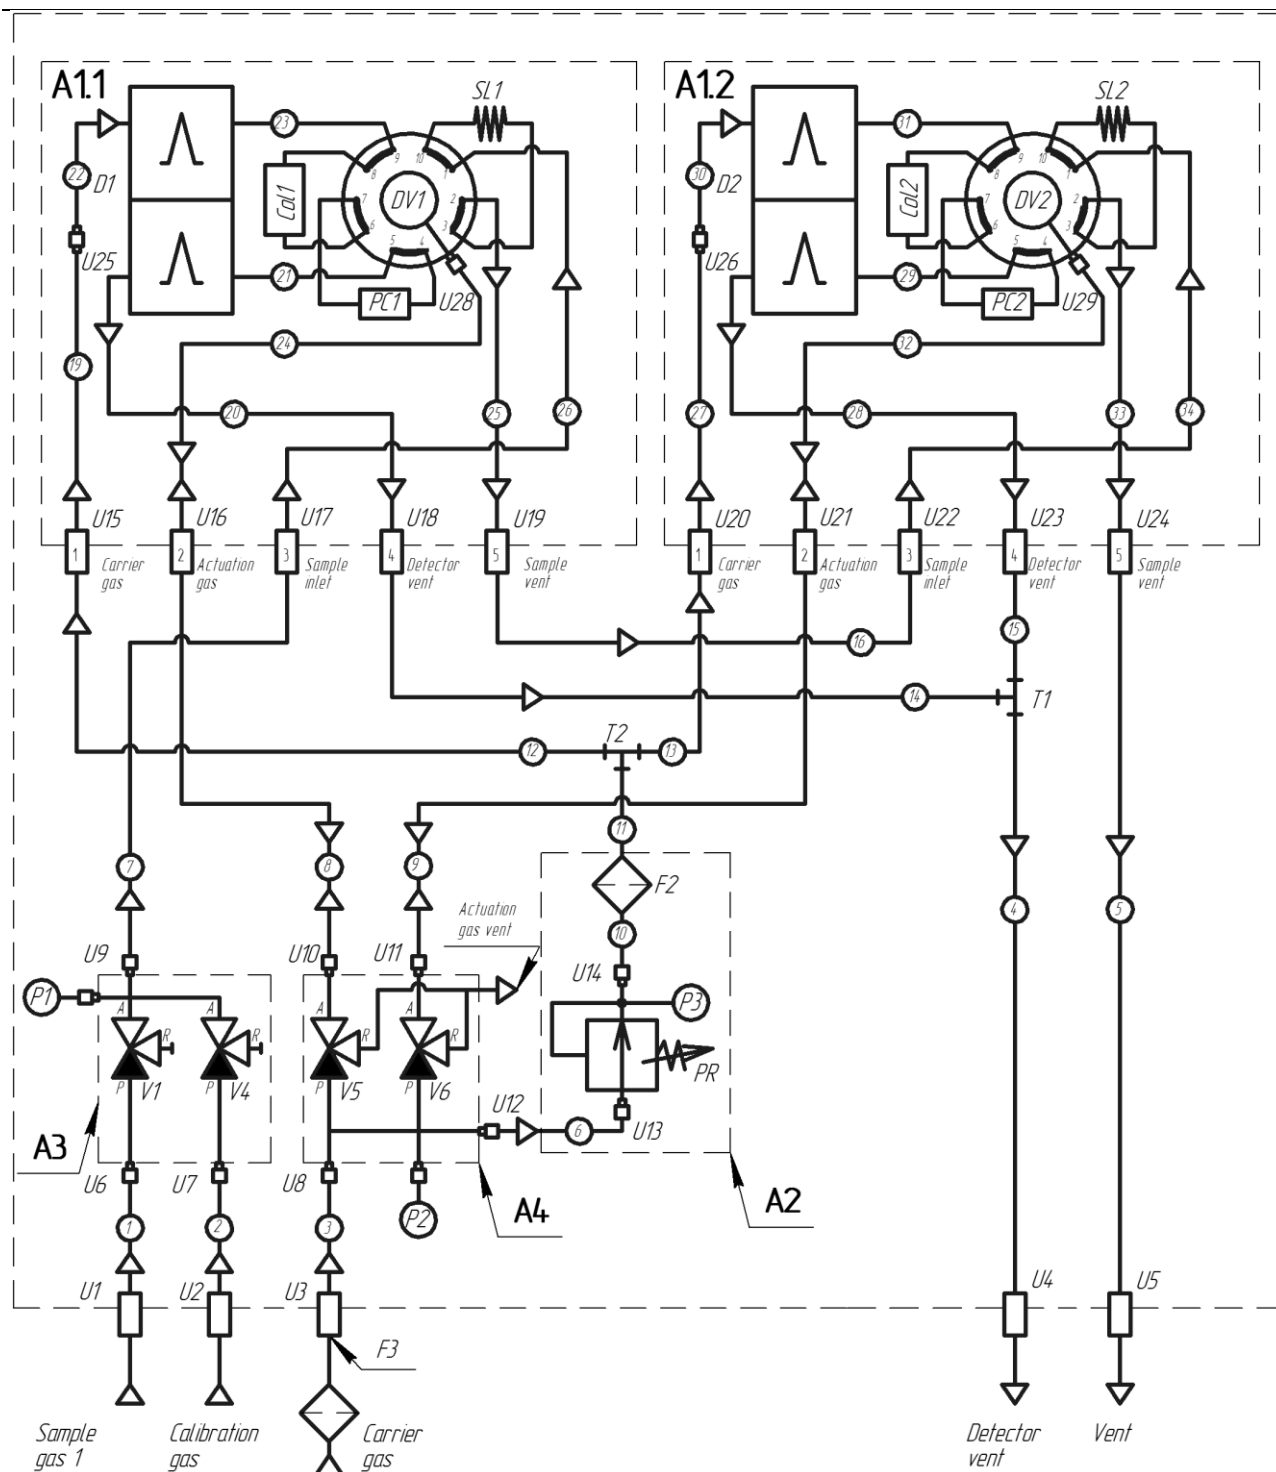

Fig. 11. Chromatograph MAG pneumatic diagram with two TCDs
- **Filter drier of carrier gas (moisture trap)** is installed outside the explosion-proof enclosure (**F1**, see the pneumatic diagram in Fig. 11). It is designed for removal of moisture traces from carrier gas before its supply to the chromatograph.
- **A2. Pressure regulating unit of carrier gas** includes the pressure regulator (**RD**) designed for maintenance of constant pressure of carrier gas at the inlet to the analytical channels (and flow rate at the outlets from them). This unit also includes a pressure sensor of carrier gas **R3** (after the pressure regulator) and an additional filter of carrier gas **F2** (see the pneumatic diagram of the chromatograph in Fig. 11).
- **A3. Stream selector** is a manifold with solenoid valves designed for automatic control of gas flows. Valves **V1** and **V2** are designed for supply of analyzed and calibration gas to the analytical channels. Optionality, the number of valves for supply of the sample can be increased to 6 that will allow to, for example, conduct alternate analysis of 5 gas flows and graduation with one test gas mixture cylinder on one chromatograph. The stream selector can also be equipped with a pressure sensor of analyzed gas **P1** (see the pneumatic diagram of the chromatograph in Fig. 11).
In the upper part of the coil there is a membranous pneumatically controlled diaphragm valve (**DV1** or **DV2**, see Fig. 11) designed for injection of the sample of set volume into the chromatograph
The example of the MAG chromatograph pneumatic diagram in the configuration with two analytical channels, thermal conductivity detectors in the version for 2 analyzed flows (including calibration gas) is shown in Fig. 11. The current pneumatic diagram for the specific chromatograph version is given in the Appendix A.
Fig. 11 shows the MAG chromatograph pneumatic diagram on standby when all **V1, V2, V5, V6** solenoid valves are in the off state; A and R solenoid valve ports are connected, the P port is closed. When the solenoid valve is on, its A and P ports are connected, the R port is closed.
After a certain time selected for the given column system, the **V5** and **V6** valves are switched off, the actuation gas is discharged to atmosphere, and the **DV1** and **DV2** the initial position shown in Fig. 11. In this case, the sample components that do not have time to pass through the **PC1** and **PC2** pre-columns are blown with the carrier gas in the opposite direction and in the form of total peaks fall at the sample cells of the detectors **D1** and **D2**.